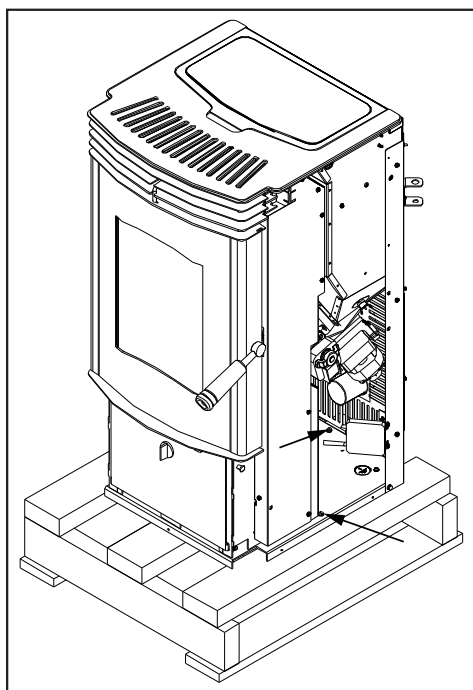

Figure 14: Screws to take out to remove stove from pallet.
4. Using a  $\frac{5}{16}$ " socket or flat head screwdriver, remove the three (3) wood screws that are holding the bottom of the stove to the pallet. There is one (1) screw behind each side panel and one (1) at the back behind the back grill (refer to Figure 14).